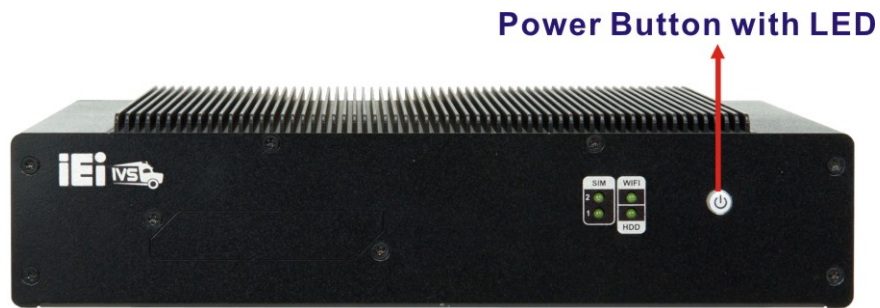

Figure 3-21: Power Button
- Step 2:** Push the power button for several seconds until the power LED turns from amber to blue (**Figure 3-21**).